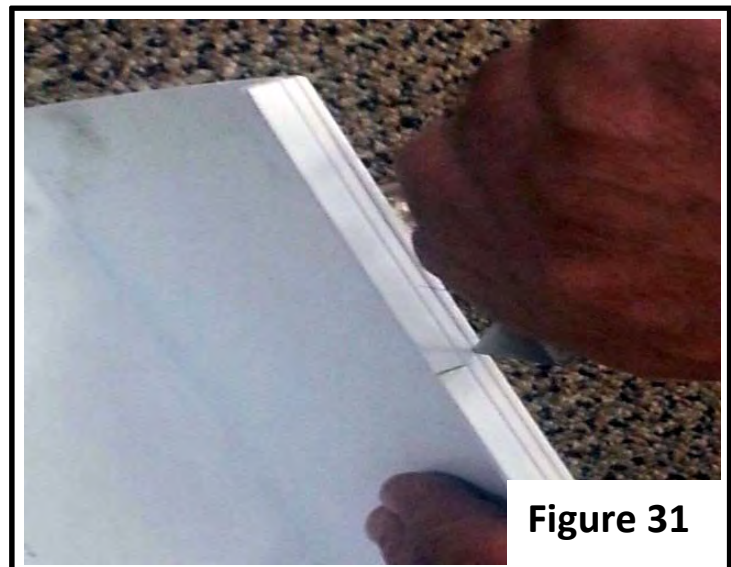
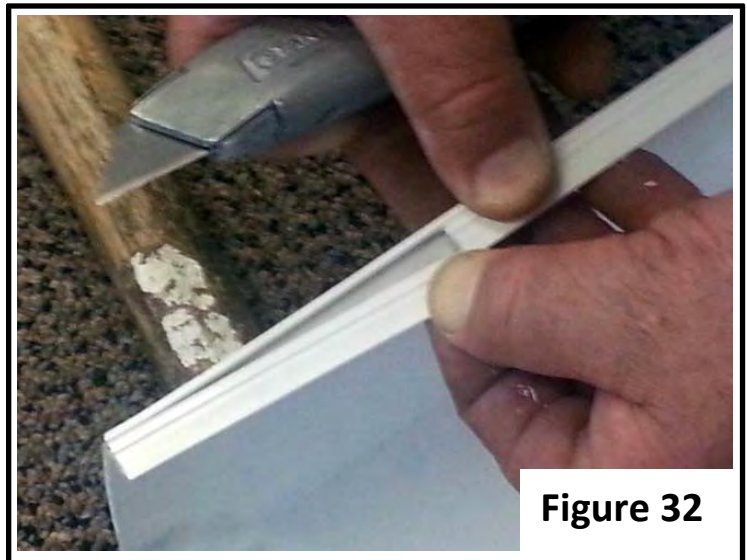

Figure 31
Figure 32
9. Run your utility knife along the scribe line a couple of times, and then break off excess vinyl. (See Figure 31 & Figure 32).